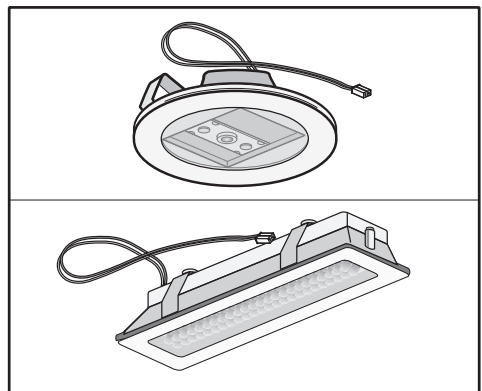

Fig.7
- 4.1 Replacing LED lamps (Fig.7): 9
4.1 Replacing LED lamps (Fig.7):